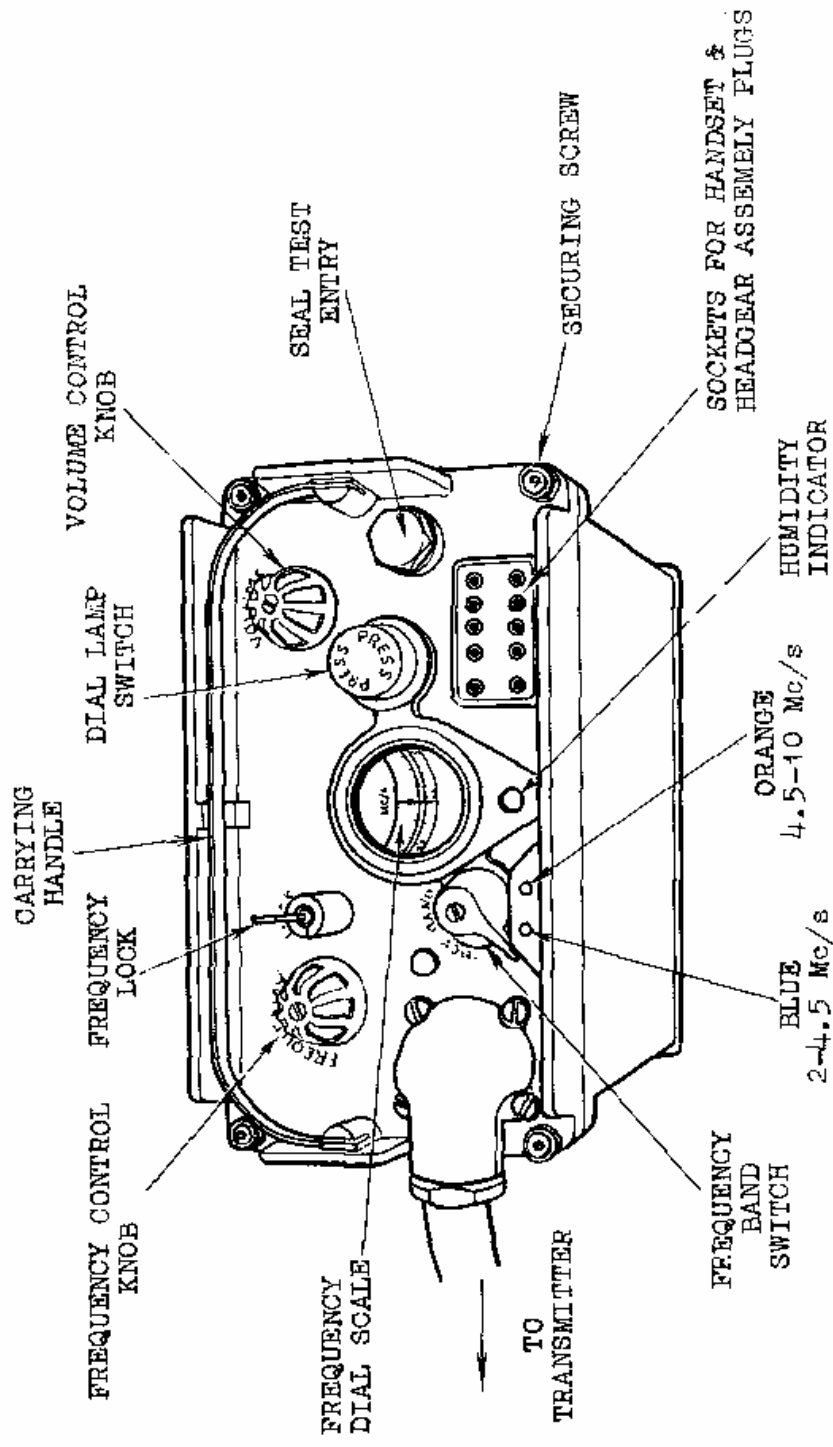

FIG.4 - RECEIVER, A510 - CONTROLS
Receiver. (Fig.4)
17. Receiver controls, as marked on the panel (shown here in inverted commas and capitals), and other items on the receiver are explained below, and illustrated in Fig.4.